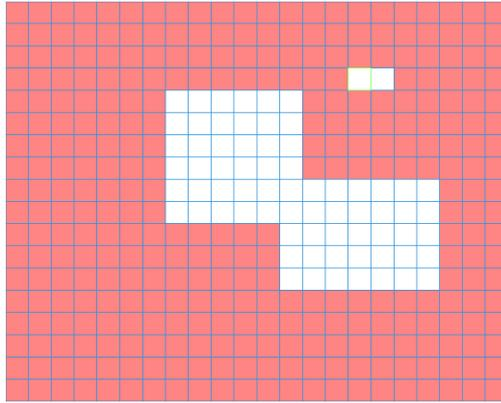

Figure 3-57
- Region: Click select button, the interface is shown as in Figure 3-57. Here you can set motion detection zone. There are 396(PAL)/330(NTSC) small zones. The green zone is current cursor position. Grey zone is the motion detection zone. Black zone is the disarmed zone. You can click Fn button to switch between the arm mode and disarm mode. In arm mode, you can click the direction buttons to move the green rectangle to set the motion detection zone. After you completed the setup, please click ENTER button to exit current setup. Do remember click save button to save current setup. If you click ESC button to exit the region setup interface system will not save your zone setup.
In Figure 3-57, you can left click mouse and then drag it to set a region for motion detection.